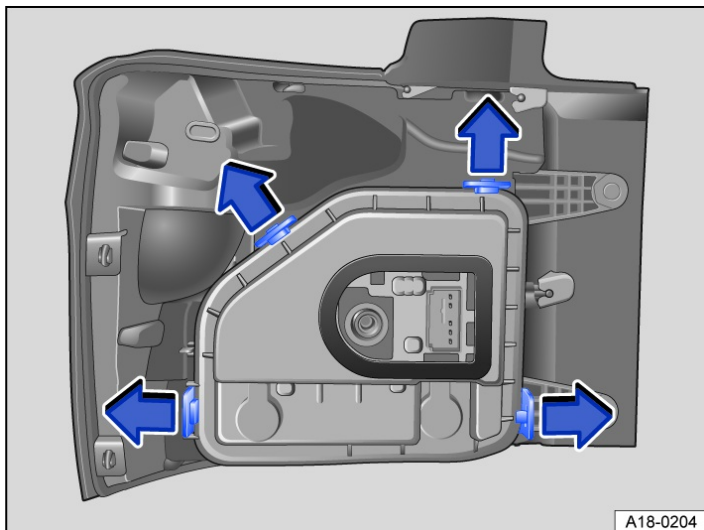

Fig. 2 Tail light cluster: removing the bulb holder.
1. To release the bulb holder, push the tabs in the direction of the arrows → Fig. 2.